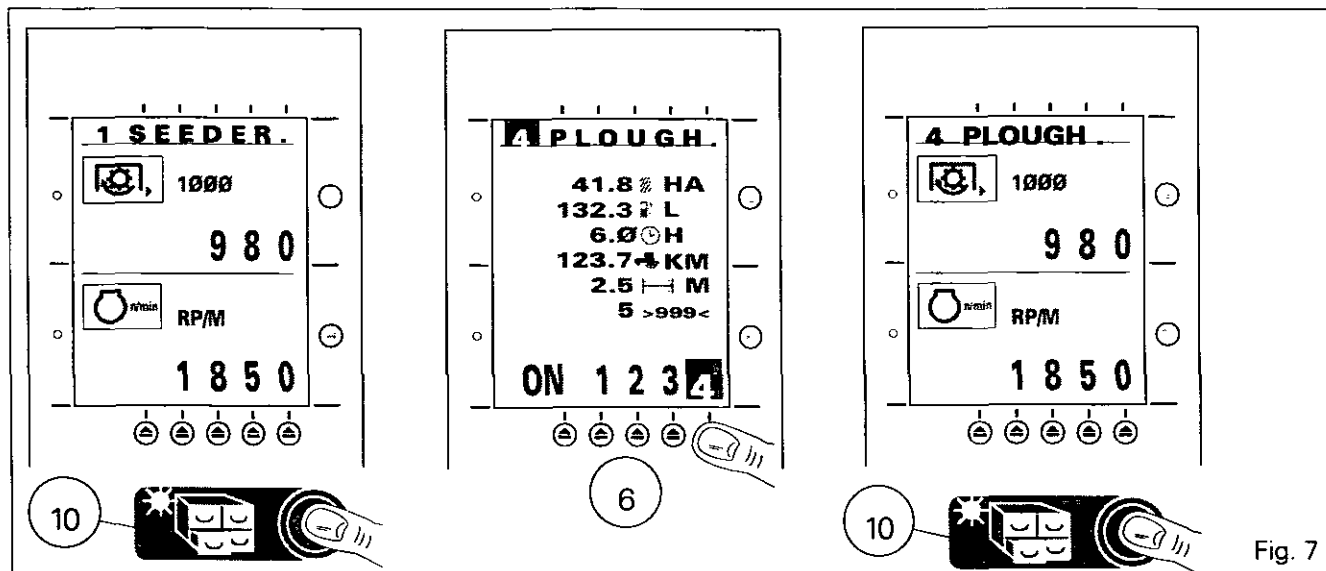

Fig. 7
Press the memory key 10 (fig. 7), then press the key 6 corresponding to the memory that you want to use for your work; the selection appears in grey.